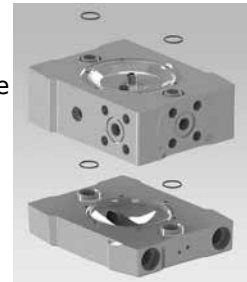

Figure 16
Push side housing o-rings (22) into the side housings (02-03) (see Figure 16).